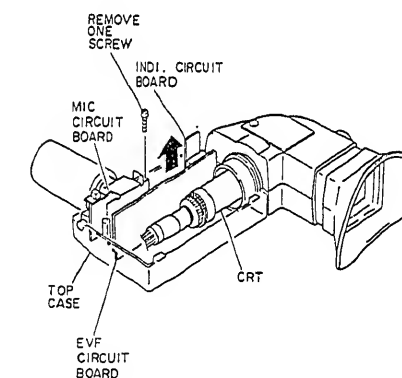

Fig. 2-152
1. Remove one (1) screw holding the EVF shield. (See Fig. 2-152)